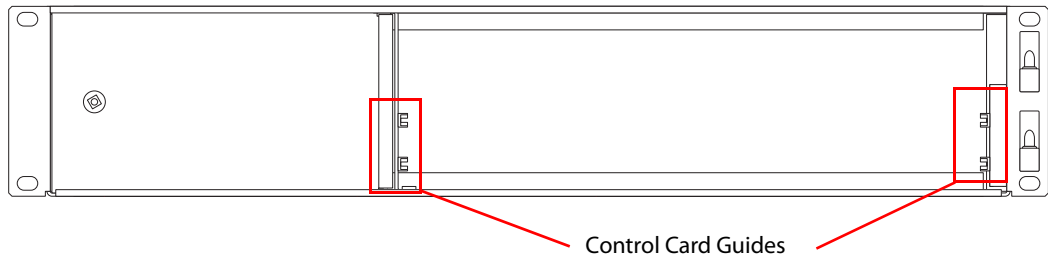

Fig. 2-1: Front of EC9535 with Door Removed
- 2 There are two control card guides, as shown in Figure 2-1. Insert each control card horizontally into each set of guides. The cards should slide in easily; do not force them.
- 1 Facing the front of the EC9535, open the door and locate the primary control card slot. The primary control card is located on top (above) and the secondary control card is located below. (See Figure 2-1 on page 11.)